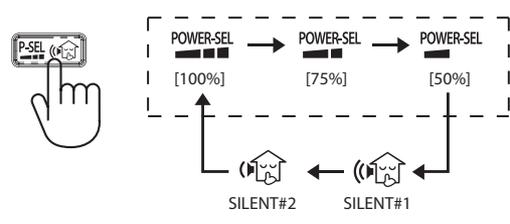

**Fig. 15-1-2**
- Take the remote controller to direction of LED display on air conditioner, press button up (▲) at ON of the remote controller (Fig. 15-1-2) 1 time to send the code "07" (within 3 sec. after press [RESET] button), then air conditioner will shutdown automatically. Also, LED display will show flash follow the table below.